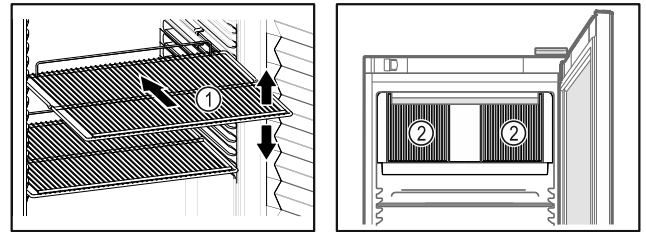

Fig. 80 Example illustration Fig. 81
- ❑ If storage surfaces Fig. 80 (1) are movable, adjust them according to height.